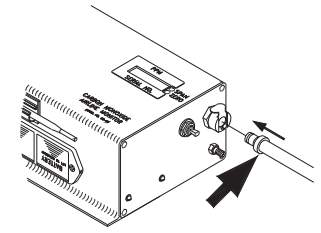

Figure 12
2. Connect the plug to the monitor (Figure 12).